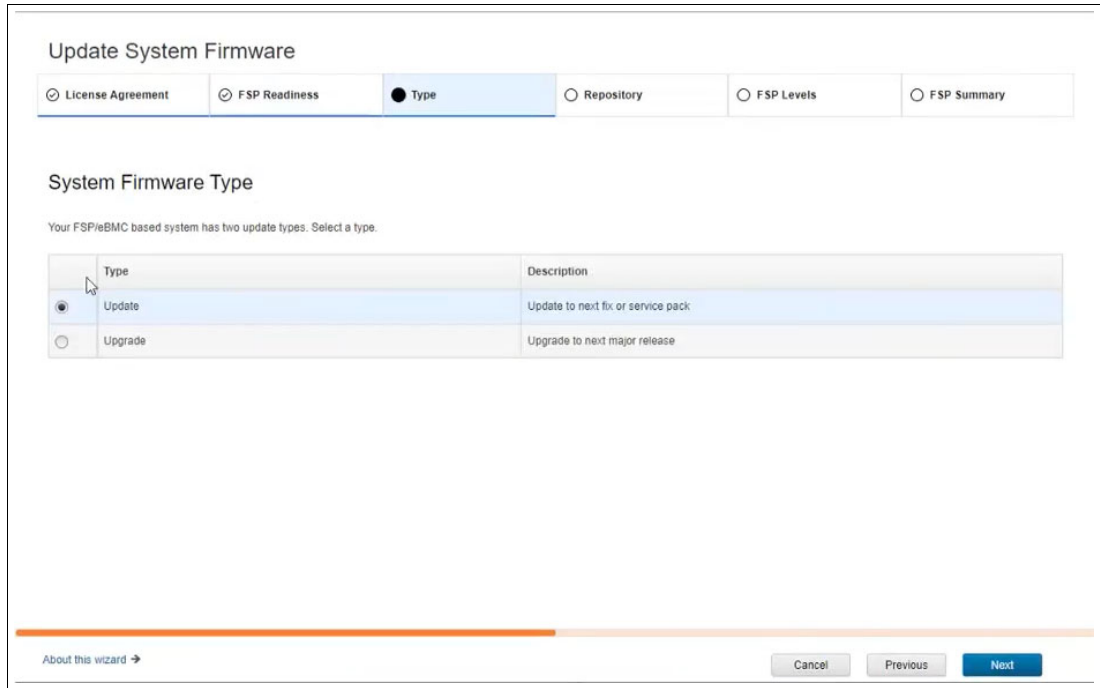

Figure 2-39 System Firmware Type window
- The System Firmware Type window opens. Two options are available: update or upgrade (see Figure 2-39). Click **Update** and then, click **Next**.